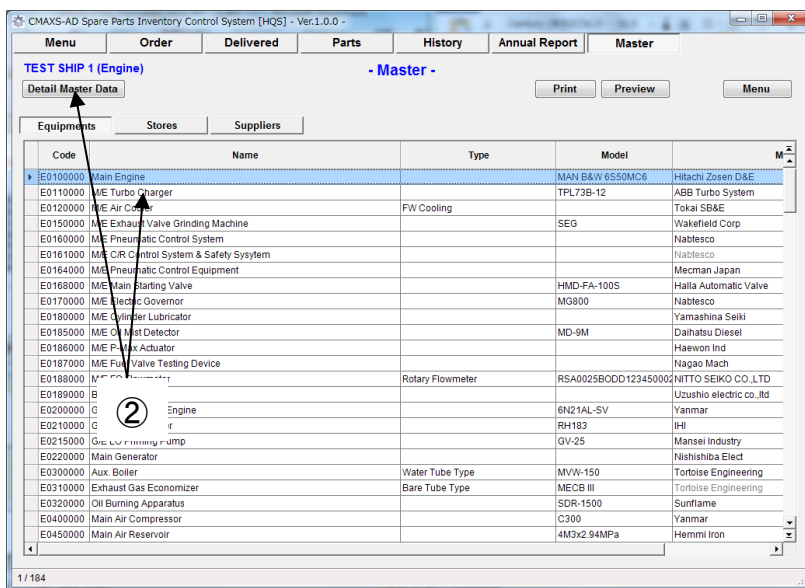

Fig.13-2 Master [Equipments] Screen
Then, “Master[Equipments] Screen”(Fig.13-2) is displayed. In this screen, all equipments registered in master database are shown.
- (2) “Master [Equipments] Screen”(Fig.13-2) is displayed and select [Stores].